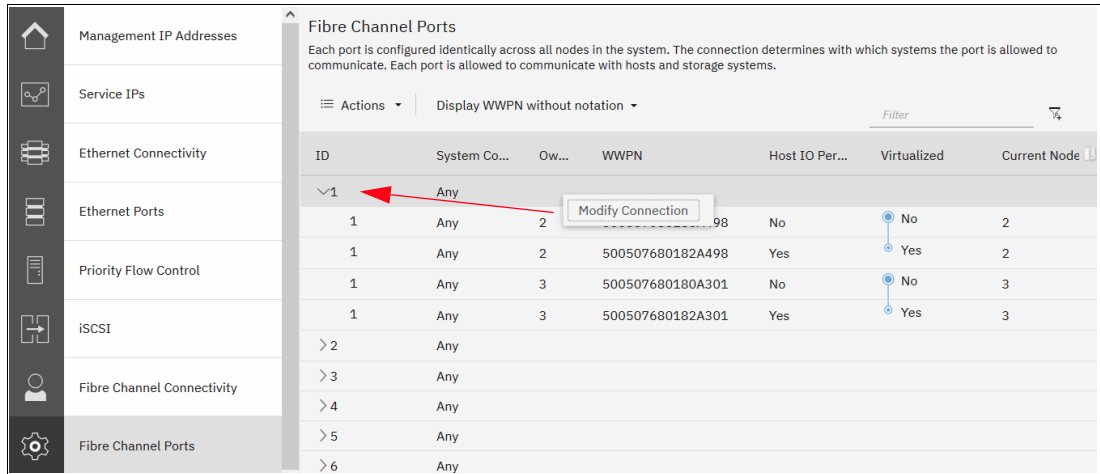

Figure 2-58 Applying a port mask by using a GUI
2. Right-click a system port ID that you want to change and select **Modify Connection**, as shown in Figure 2-58.